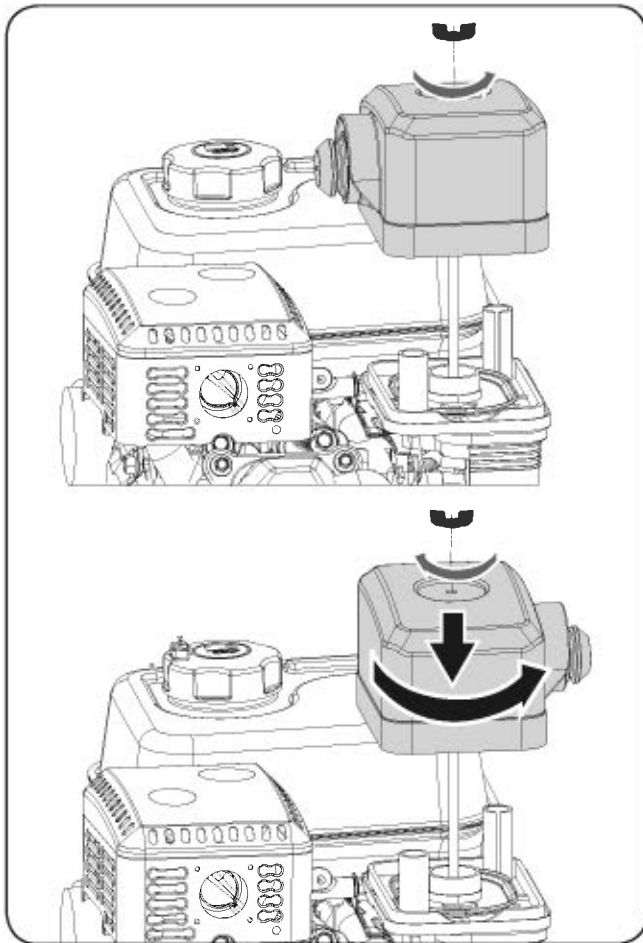

Figure 1
3. Install air filter cover and tighten wing nut. (See **Figure 1**)